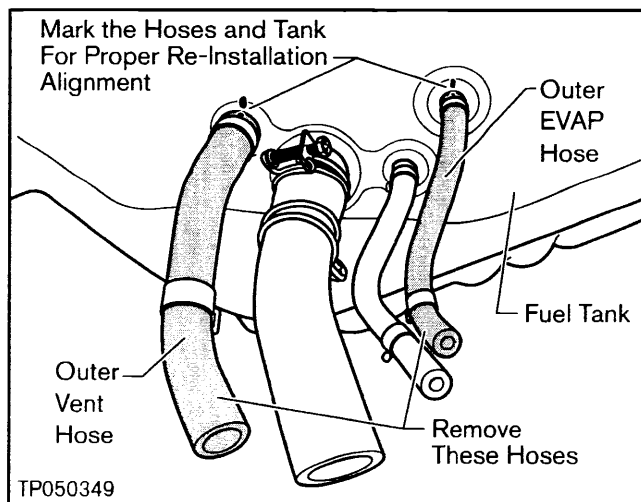

Figure 13
11. Mark the outer EVAP Hose and outer Vent Hose with a permanent marker for proper re-installation, then remove these hoses from the Fuel Tank (see Figure 13).